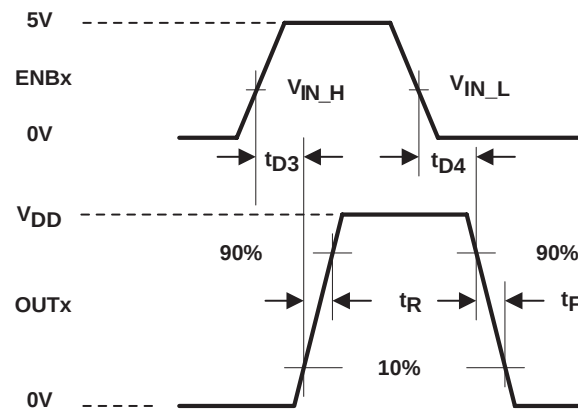

Figure 2. Switching Waveform for Enable to Output
4. See Figure 2.
The first circuit in Figure 2 is used to verify the current sink capability when the output of the driver is clamped around 5 V, a typical value of gate-source voltage during the Miller plateau region. The UCC27423 is found to sink 4.5 A at $V_{DD} = 15$ V and 4.28 A at $V_{DD} = 12$ V.